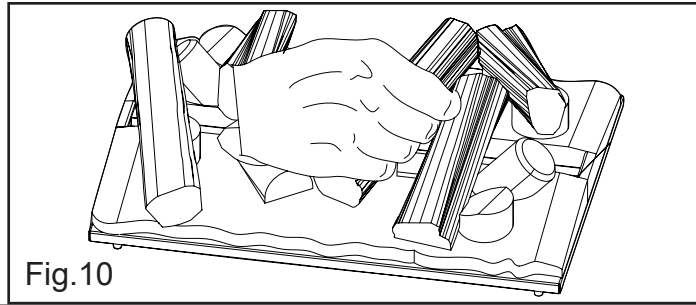
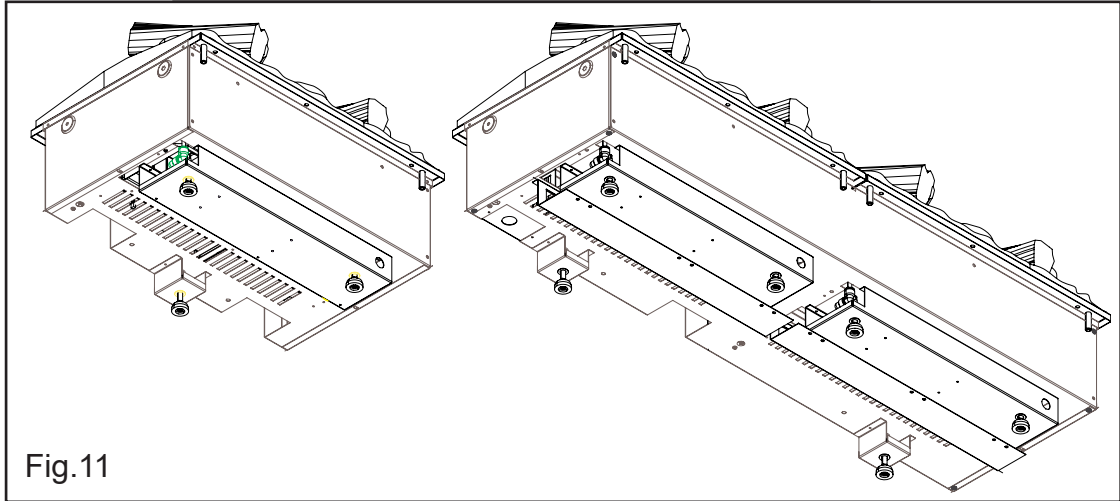
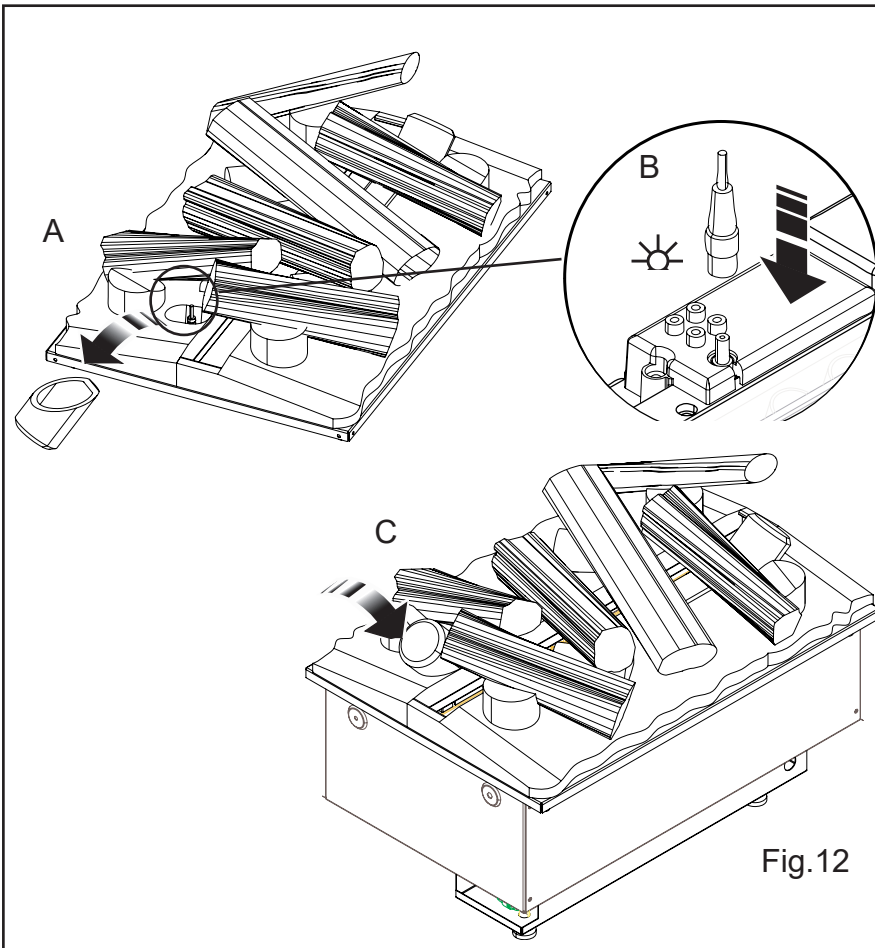

Fig.10
Fig.11
Fig.12
**CAUTION: The fuelbed weighs 5kg. Be sure to only lift the Fuelbed by the two center logs (Fig.10). These are the strongest.** Place the Fuelbed on top of the appliance, there are 4 plastic guides under the Fuelbed to help locate it, (Fig.11). The Fuelbed can be placed front to back or back to front, it is the customers preference how this is to be orientated. Once in place lift off the small loose log, this is held in place by magnets. Under this log there is a DC wire jack and a hole through the fuelbed. Connect this to the corresponding DC wire jack on the product through the holes in the Fuelbed, (Fig.12). The product is now assembled and is ready to be switched on.
2. Press switch 'A' to the OFF (O) position.
8. Press switch 'A' to the ON (I) position
9. Place the fuelbeds back on the product and make the DC connection see Fig12